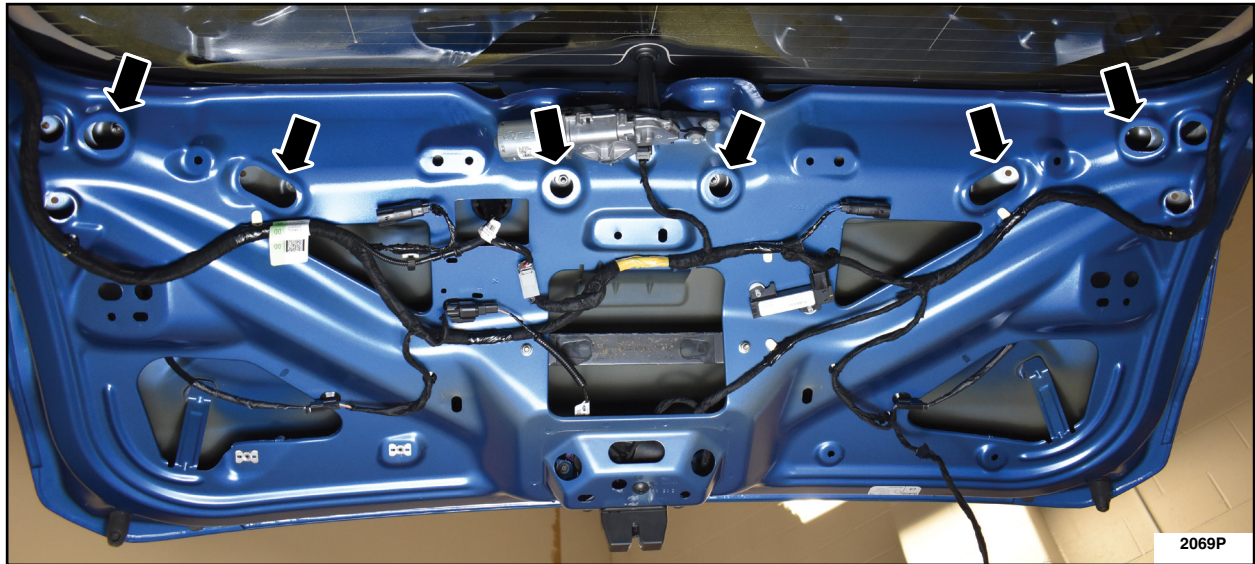

FIGURE 2
2. Remove the six (6) retainers holding the liftgate moulding to the liftgate panel. See Figure 2.